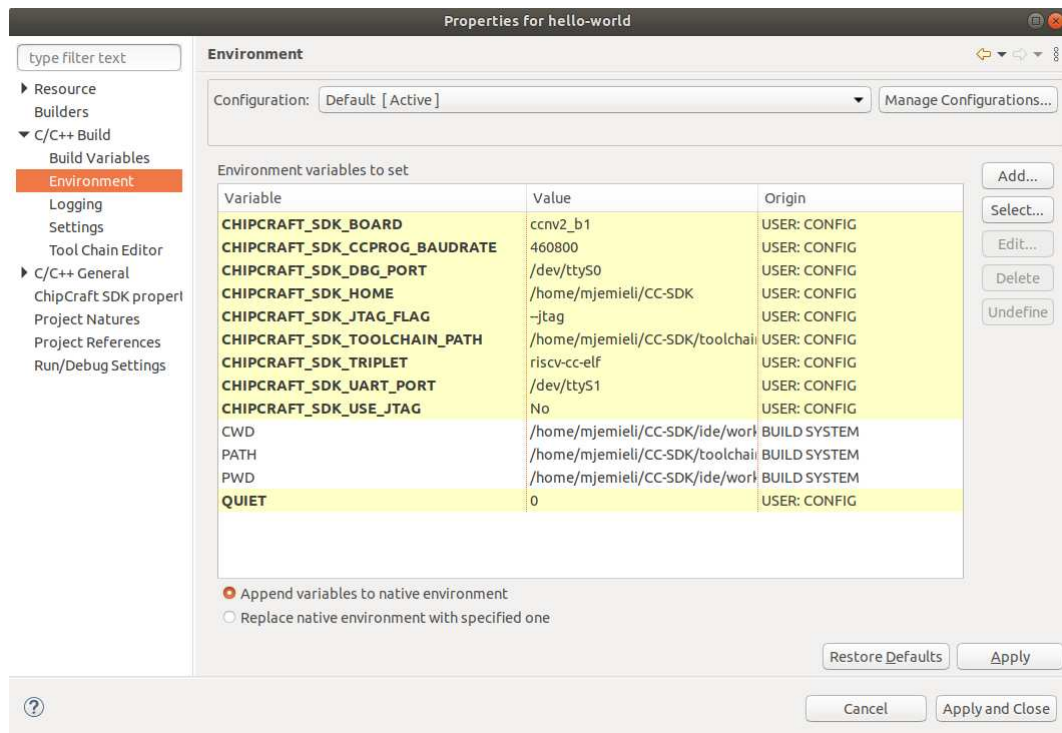

Figure 2.26. Environment variables configuration.
**C/C++ Build -> Environment** page (figure 2.26) allows to set environment variables used during the build process. They are accessible from *Makefile* scope. New Project Wizard configures multiple environment variables starting with `CHIPCRAFT_SDK_` prefix. They should not be changed nor removed using this page.